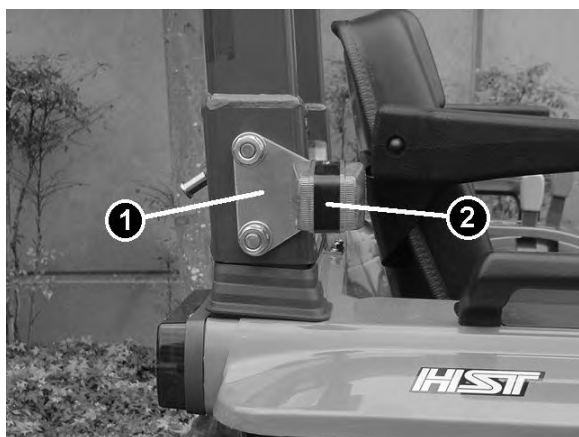

Figure 4.
1. If the Control Valve will be mounted to the outside of the ROPS tube, the secondary hazard light stay needs to be reversed so that light is forward of ROPS (Figure 4). Note: Torque ROPS bolts per ROPS installation instructions.